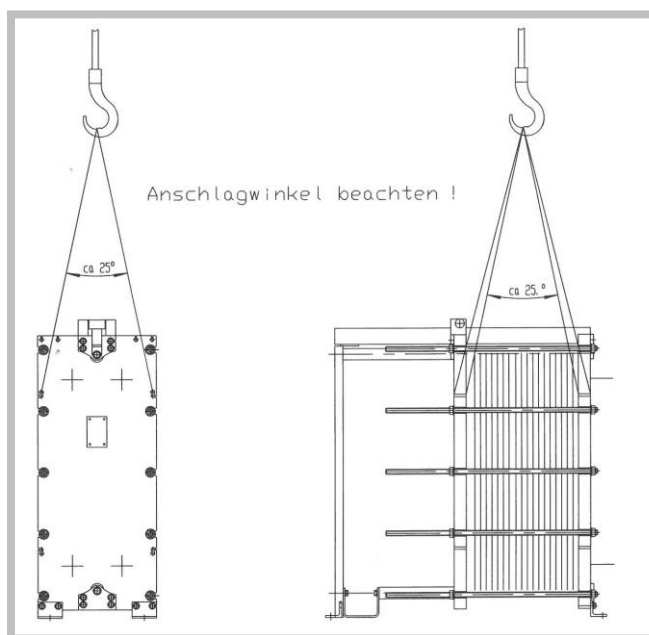

Figure 28
1. Attach suitable lifting means to the designated suspension eyes of the frame plates (Figure 28). Chain suspensions may not be used. The PHE can be damaged and slip off.
3. Ensure that the stop angle is at the correct level of ca. 25° (Figure 28).